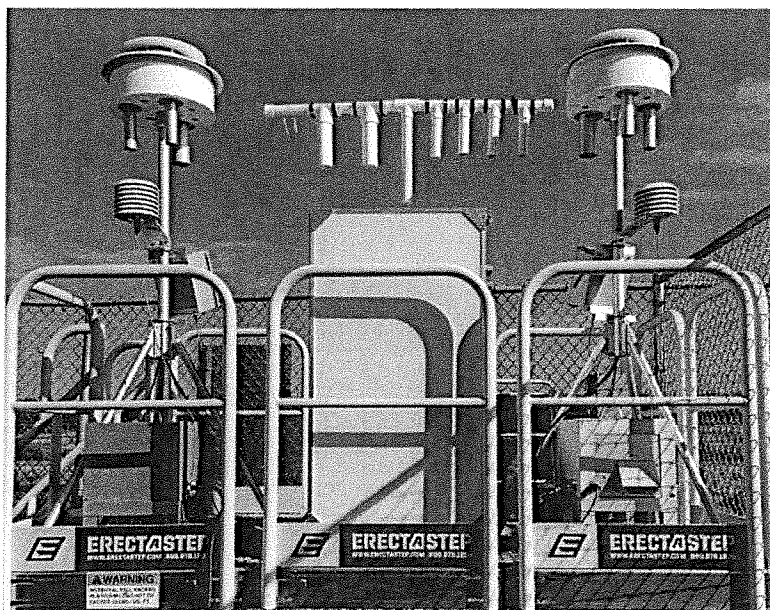

Figure 2: Two Met-One instruments and an enclosure on-site.
- 3.1.1 Locate the Flite4 Pump inside the enclosure. **Note:** *The Flite4 Pump should be inside the enclosure with T shape sampling ports on top (Figure 2).*